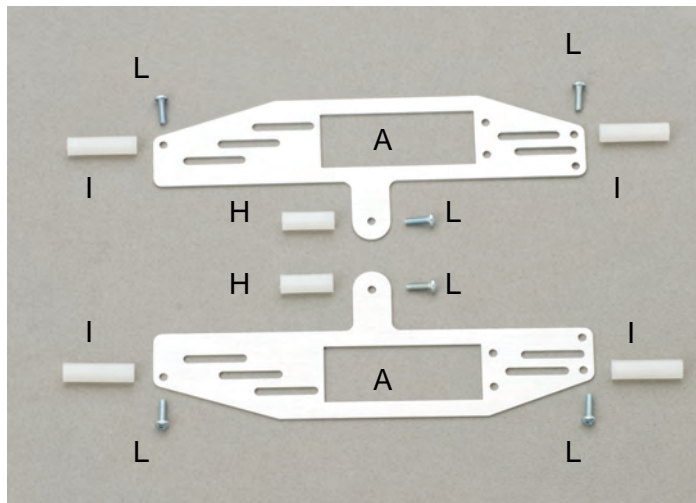
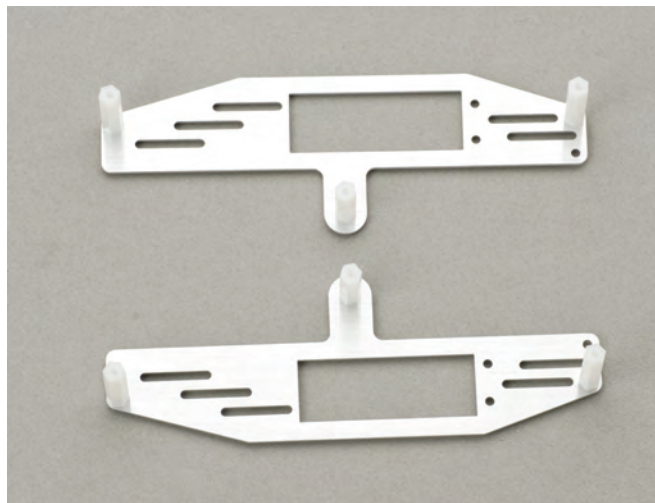

Fig 2
Fig 3
Following **Fig 2**, install the Nylon standoffs (H & I) on the Crawler sides (A) using the screws (L). The shorter standoffs (H) go to the center, and the longer standoffs (I) are mounted by the ends. Tighten screws firmly. Each side panel should be a mirror image of the other. Before moving on position the pieces exactly as they appear in **Fig 3** and double check your work and proceed to **Step #2**.